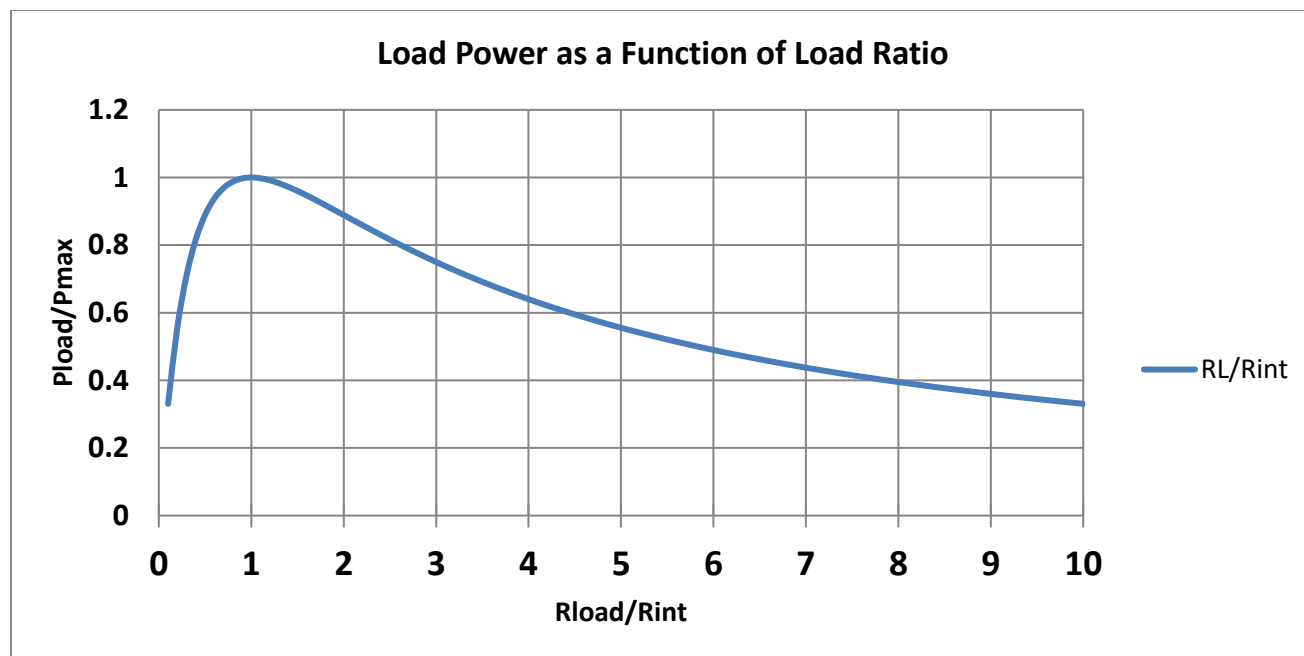

Figure 2 – Output Power as a Function of Load Resistance
This can be seen from the V_L calculation in equation (2). So, it might seem that having high valued electrical loads is desirable from the standpoint of having high values of output voltage. This is not necessarily so, since the power delivered to the load is also a function of the value of load resistance. There is a well-known result from circuit theory that the maximum power is delivered to an electrical load when that load is chosen to match the input impedance of the generator. This is known as “Impedance Matching”. A plot of the power output as a function of the maximum possible power that can be delivered to a load is shown in Figure 2. This is a general plot that applies to any arbitrary electrical generator.